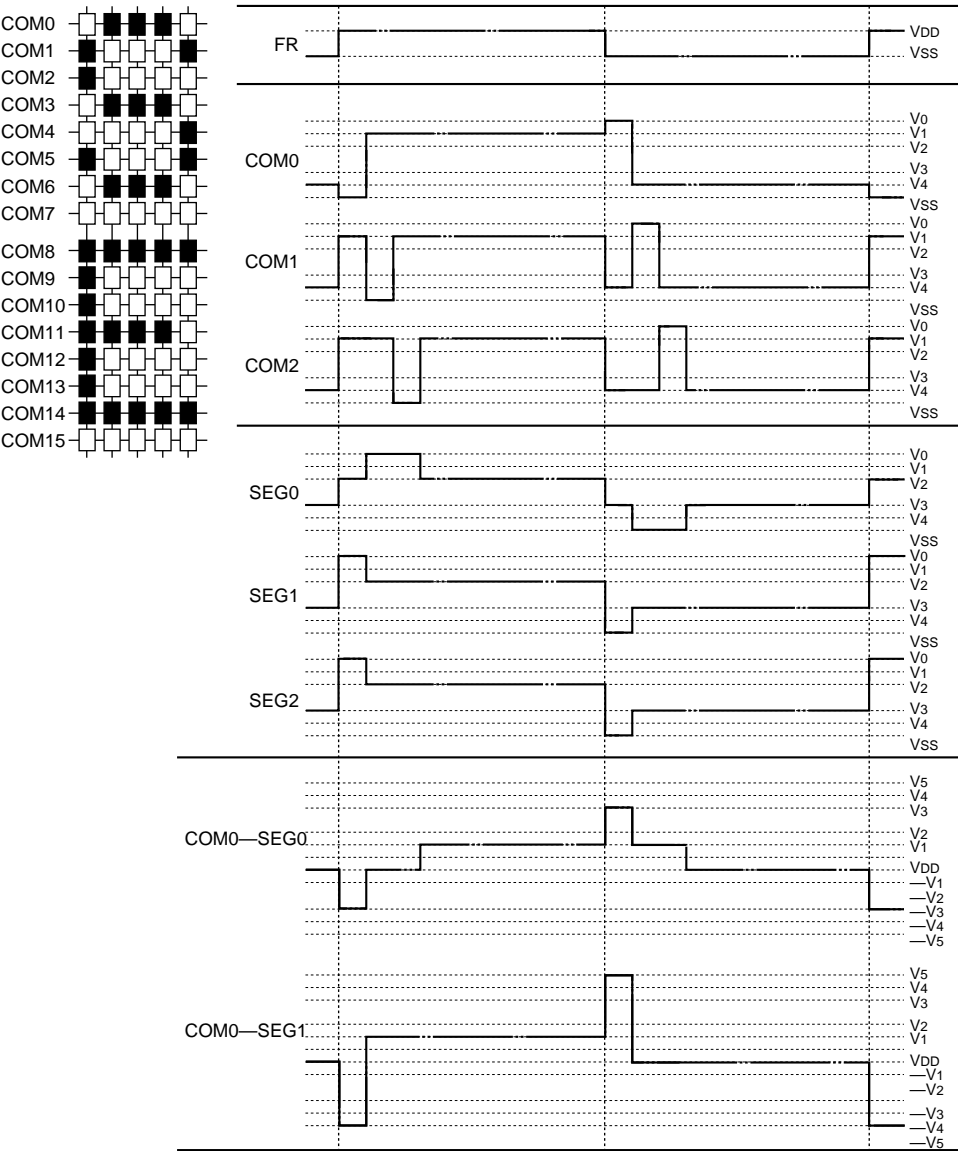

Figure 6
These are multiplexers outputting the LCD panel driving 4-level signal which level is determined by a combination of display data, COM scan signal, and LCD AC signal (FR). Figure 6 shows an example of SEG and COM output waveforms.